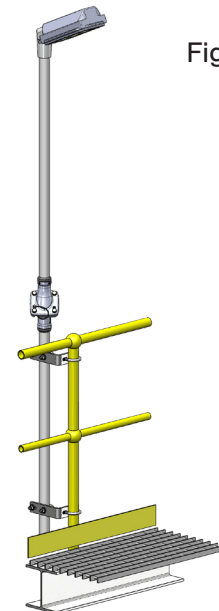

Fig 6
- Tighten the bolts evenly and alternately whilst ensuring the pole top is straight by manoeuvring vertically. (Fig 6)